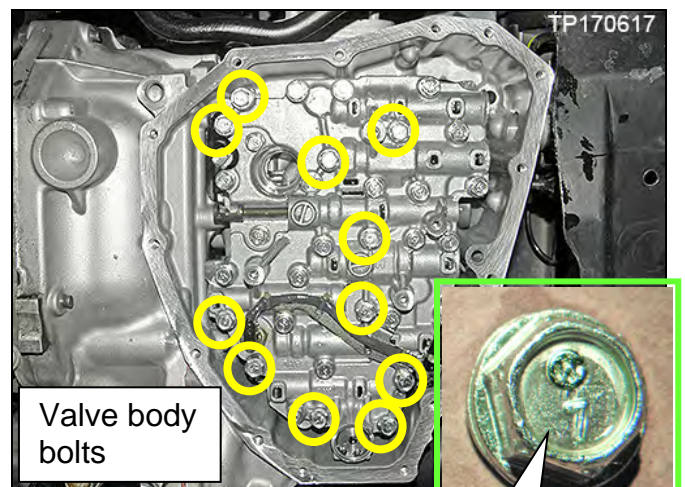

Figure 8B
14. Remove ONLY the eleven (11) valve body bolts with markings as shown in Figure 8B.